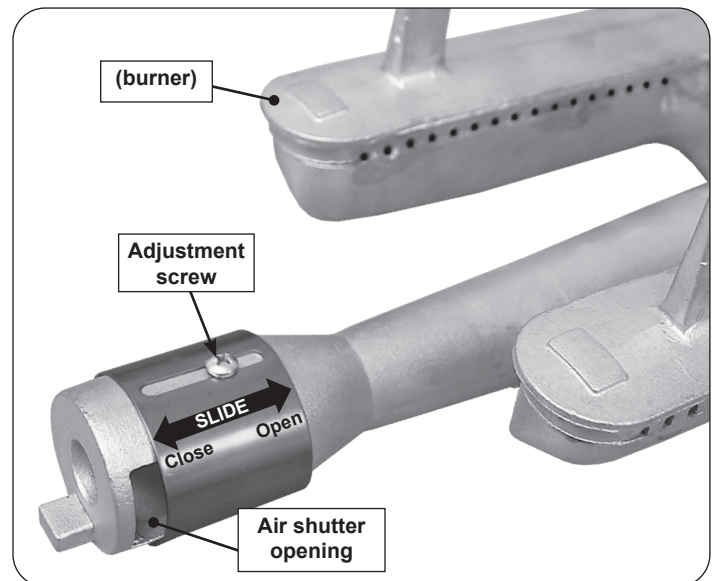

Fig. 54-2 Main burner air shutter adjustment detail
1. To adjust the air shutter, loosen the adjustment screw with a Phillips screwdriver. Then slide the shutter to open or close it. See Fig. 54-2 for details.